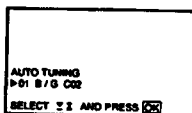

Fig. 6
- Select "AUTO TUNING" with  $\Delta$  or  $\nabla$  and press OK. The AUTO TUNING menu appears. (See Fig. 6.)